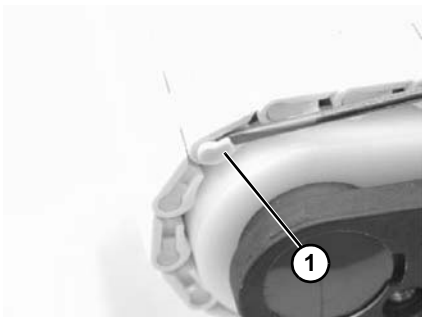

**Figure 42**
5. Splice the belt together by pushing the plastic rod (**Figure 42, item 1**) through the side hole on the rod retaining side of belt.